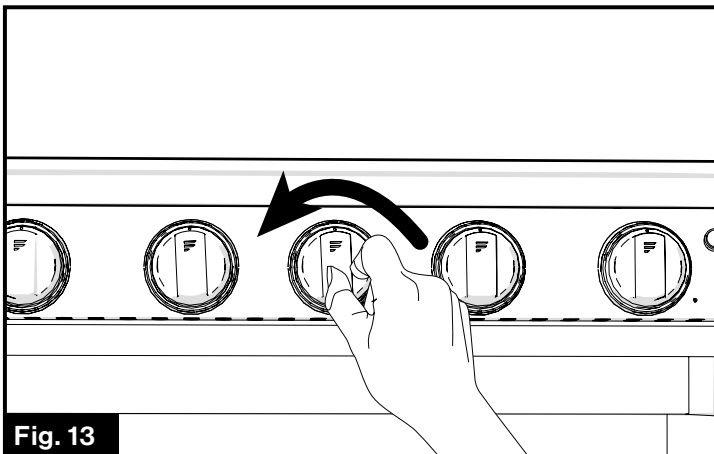

Fig. 13
2. Push and turn the appropriate burner control knob counterclockwise to the 🔥 position. (Fig. 13)